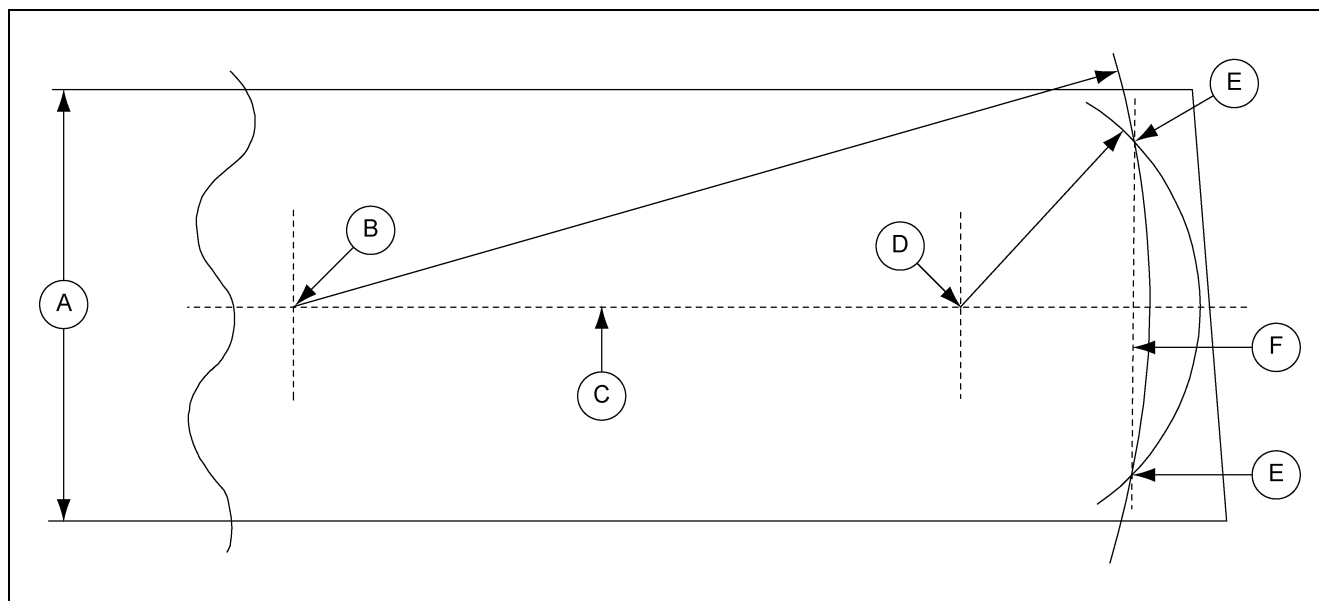

Figure 6B
1. A double arc method is used on establishing a cut line on the belt. After a centerline has been drawn, pick a point on the centerline about two (2) times the belt width. From this point, strike an arc across the width of the belt end. A nail may be used as a pivot point with twine used as the arm of the arc. Tie a marking tool (chalk, for example) to the end of the twine.
2. A second set of arcs is struck with the pivot point of the arc on centerline and close to the belt end. Where the two (2) arcs intersect each other are points on which a cut line is drawn. (See Figure 6B.)